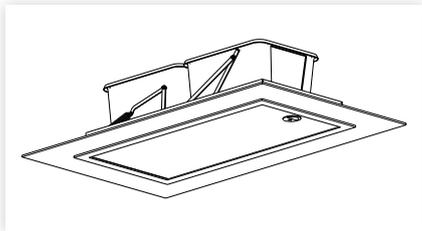

figure 15
1. Fix a suitable architrave around the lid (figure 15).